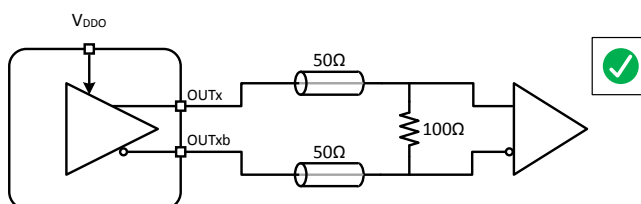
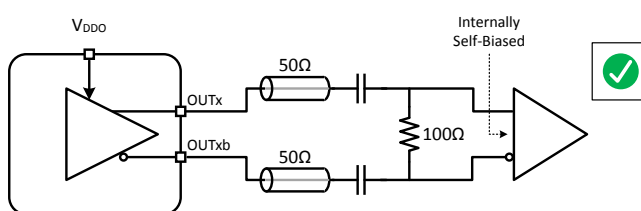

Figure 2.1. DC Coupled LVDS
Figure 2.2. AC Coupled LVDS/LVPECL/Custom Differential
- A 100 ohm differential termination must be used, according to Figure 2.1 DC Coupled LVDS on page 4 and Figure 2.2 AC Coupled LVDS/LVPECL/Custom Differential on page 4. The termination may either be internal to the destination device or an external resistor.
- 100 ohm differential termination should be used, according to Figure 2.2 AC Coupled LVDS/LVPECL/Custom Differential on page 4. The termination may either be internal to the destination device or an external resistor.